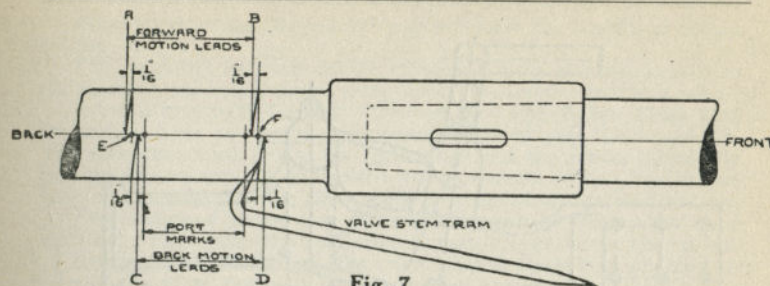

Fig. 7
**Eccentric Rod Length.** The inside admission gear is direct in the forward motion and indirect in the back motion and the ratio of the gear is 4 to 1, therefore the valve will move forward  $\frac{1}{4}$ " if the eccentric rod is lengthened  $\frac{1}{4}$ " with the lever in the extreme forward motion and the engine on dead center. If the lever is in the extreme back motion the valve will move back  $\frac{1}{4}$ " when the rod is lengthened  $\frac{1}{4}$ ". Having taken the port marks with your standard valve stem tram, take the lead openings in both motions as shown by Fig. 7, which shows eccentric rod  $\frac{1}{4}$ " too long for inside admission.
has had some experience the valve rod and eccentric rod alterations can be made after one revolution of the wheels. Referring back to the paragraph on Eccentric Crank Setting, which can be checked from the stem (see Fig. 7), on which the distance between *A* and *B* on the horizontal line of the stem is equal to *C* and *D*, this will always be the case when crank setting is correct, whether the eccentric rod shows long or short.